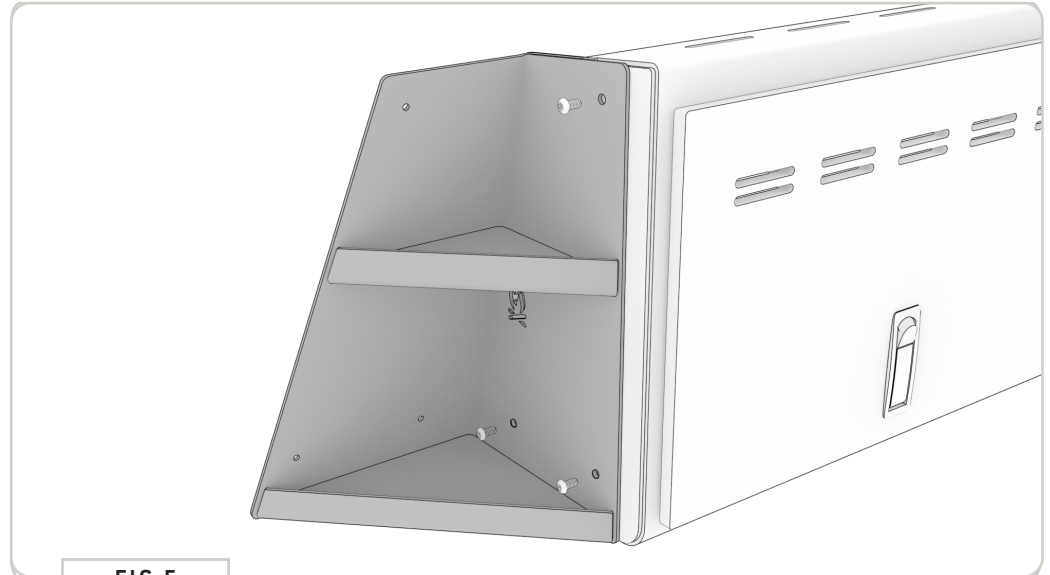

FIG 5
2.1 Install Shelf to Cabinet: Use (3) 1/4 x 0.5 Button Head Hex Drive Screws and Cap Nuts to install the Angled Shelf to the Cabinet (FIG 5+6).